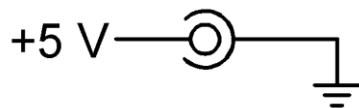

Figure 3 Typical SPCM-AQRH PDE Scan at 650 nm
12. Red-NIR wavelength photon detection efficiency can be optimized. PDE is enhanced over the 700-900nm wavelength range. Please refer to the Product Brief of the SPCM-NIR series. See Figure 3 for the typical photon efficiency of standard PDE modules.